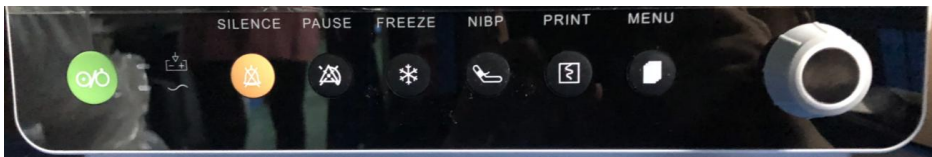

Figure 1-3 Buttons and Knob
All the operations to the monitor are through the buttons and a knob at the bottom of the screen. The names of the buttons are above them. They are (from left to right, Figure 1-3):
- POWER (Figure 1-3)
- MAIN (Figure 1-3)
- FREEZE (Figure 1-3)
- SILENCE(ALARM) (Figure 1-3)
- PAUSE(ALARM) (Figure 1-3)
- PRINT (Figure 1-3)
- START (Figure 1-3)
- MENU (Figure 1-3)
- Rotary knob (Figure 1-3)